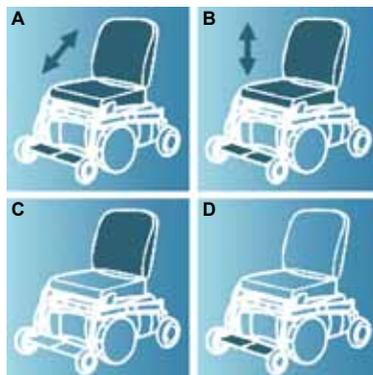

Figure 2 Electrical adjustment options
To switch to a different profile, just press the 'profile' button (L in figure 2). Press the 'profile' button until the most appropriate profile has been selected.
Not every wheelchair has been equipped with electronic adjustment options. We make a distinction between four different adjustment options to the seating system as per the pictures in figure 2:
2. Press the 'mode' button to select the 'adjustment options' mode (see figure 2). The controller will now be in the 'adjustment options' mode and one of the four pictures in figure 2 will be visible on the joystick display.
- Lights (I in figure 2)
- Hazard Lights (J in figure 2)
- Direction indicators (K1 & K2 in figure 2)